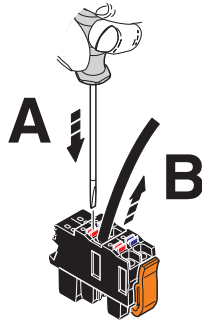

Figure 10-2 Removing the cable
- Open the spring by pressing on the spring lever with a screwdriver (A in Figure 10-2).
- Remove the cable (B in Figure 10-2).